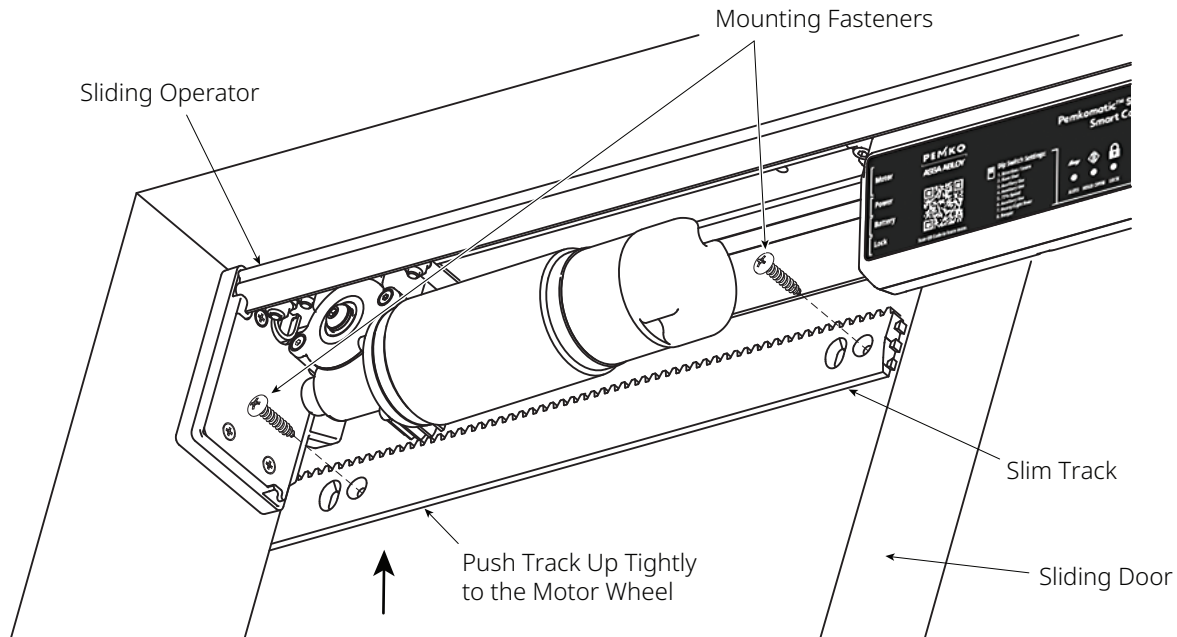

Figure 18: Mount the Track While Pushing it Up Tightly to the Motor Wheel
8. Install the #8x1" provided (or other appropriate fasteners) in the closest hole **while pushing the track up tightly to the motor wheel as shown in Fig 18.**